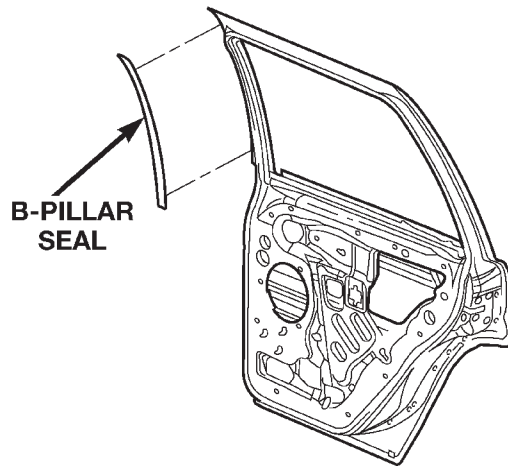

Fig. 34 B-Pillar Seal
- (1) Peel seal from the door (Fig. 34).